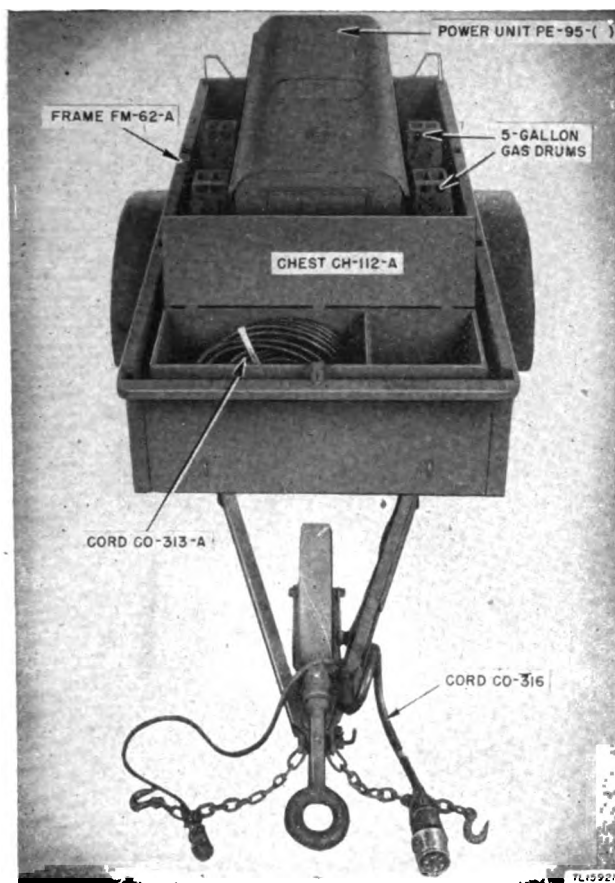

Figure 10. Power Unit PE-95-(), installed in Trailer K-52-().
- a. Installed in Trailer K-52-(). (See fig. 10.)